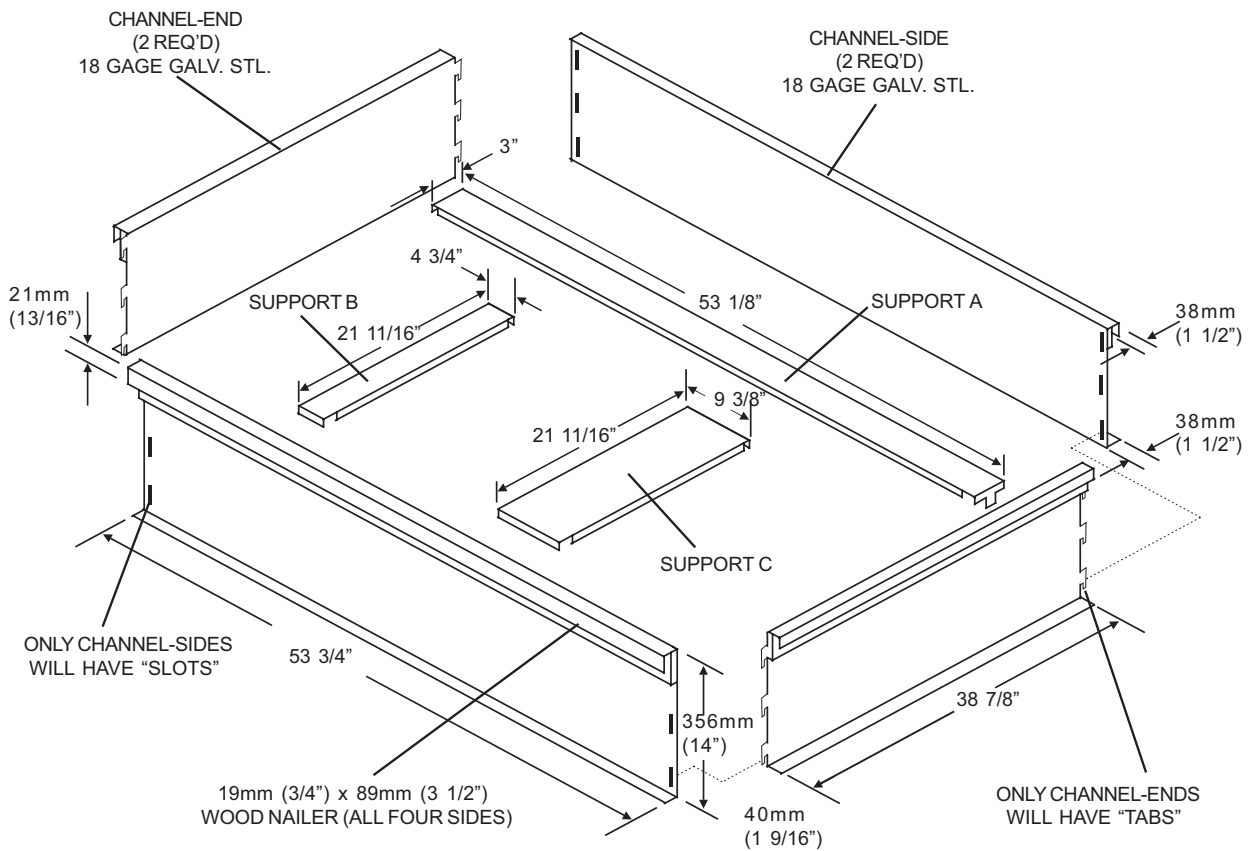

Figure 4. BAYCURB051 Component Drawing
4. See Figure 4, page 4, for components of curb.
3. Set supports A, B, and C onto channel sides and channel ends as shown in Figure 4 (below).